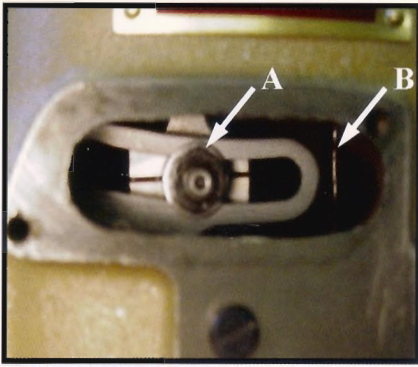

fig. 1
Set the zig-zag motion to the maximum travel that the needle hole in the throat plate will permit. This can be accomplished by moving the ball joint. (A, *fig 1*) in the segment lever (B) located under the cover directly above the handwheel on the right side of the machine. Moving it away from the operator increases the zig-zag motion and toward the operator acts the reverse.